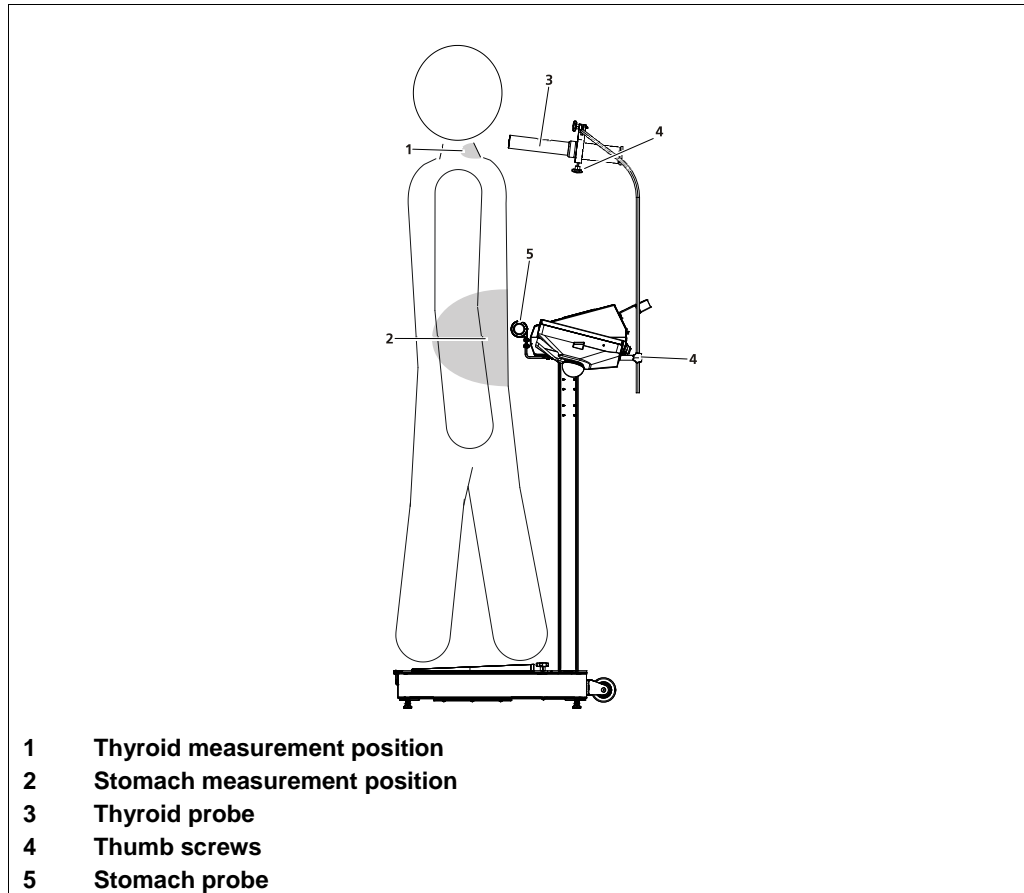

Fig. 18 Magen - / und Schilddrüsen-Messung
1. Position the thyroid probe for the correct measuring position using the knurled screws below the larynx (Fig. 18, pos. 1 and pos. 4).
2. The stomach probe is fixed in the corresponding holder (Fig. 18, items 2 and 5).